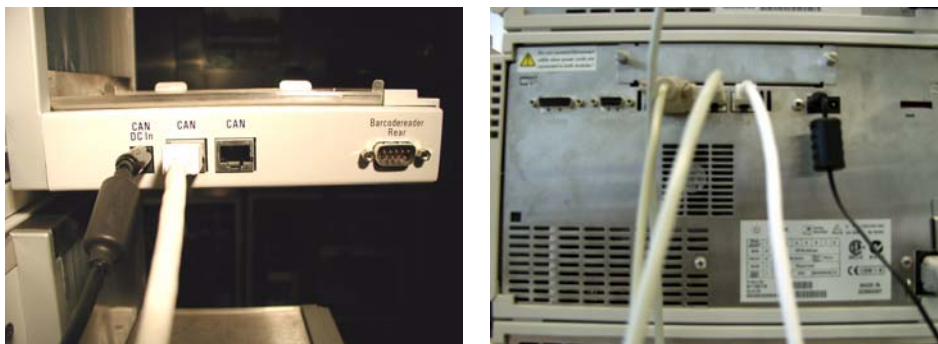

Figure 29 Connections to the Automation Interface and Well-plate Sampler
- 1 Connect the fixed barcode reader cable to the port labeled **Barcode Reader Rear** on the Automation Interface (see Figure 29).
- 2 Connect the CAN Cable from the Automation Interface to one of the other Agilent 1100 modules (see Figure 29).
- 3 Connect the auxiliary power cable from the Automation Interface to any Agilent 1100 module with a free power outlet (see Figure 29).